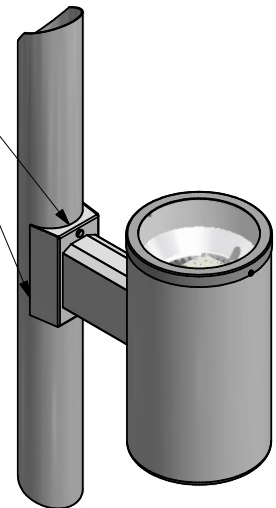

FIG. 4
6. APPLY A BEAD OF SILICONE AROUND THE BRACKET AFTER MOUNTING TO PREVENT MOISTURE INTRUSION AS SHOWN IN FIG. 4.